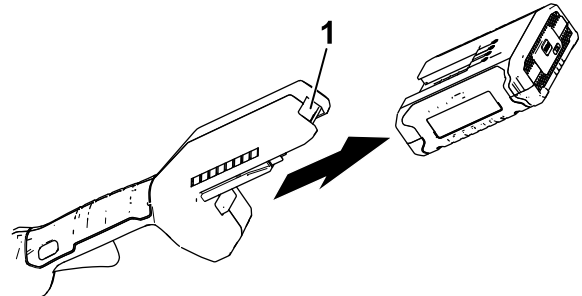

Figure 9
3. Push the battery pack into the handle until the battery locks into the latch (Figure 9).
Press the battery latch on the machine to release the battery pack and slide the battery pack out of the machine (Figure 9).